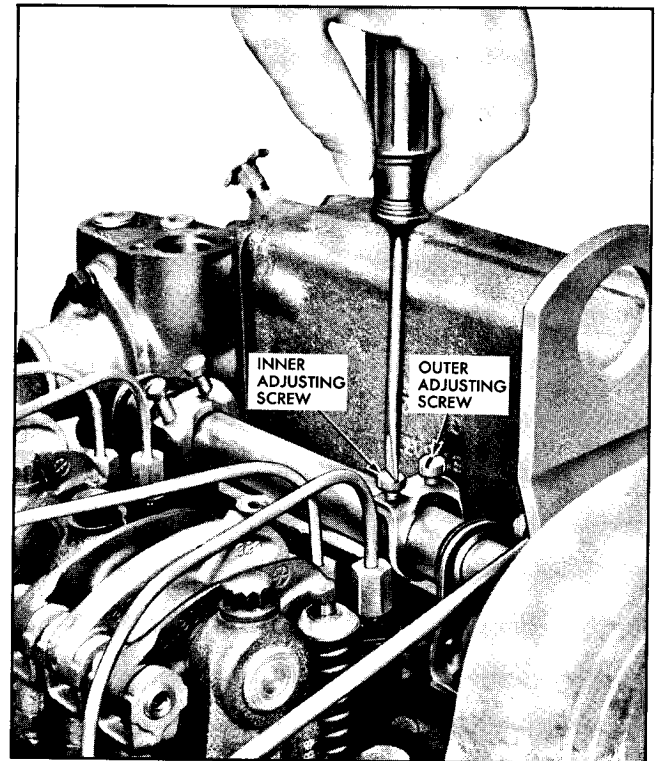

Fig. 2 - Adjusting Height of Rack Control Lever Adjusting Screws
1. Adjust the inner and outer adjusting screws, Fig. 2, on the rear injector rack control lever until both screws are equal in height and tight on the control tube. Check the fuel rod to cylinder head bolt or to cylinder head casting, below bolt, for at least 1/16" clearance when the injector rack is in the FULL FUEL position and the rack adjusting screws are tight. If the fuel rod contacts the bolt or cylinder head casting, re-adjust the screws to obtain the 1/16" clearance.